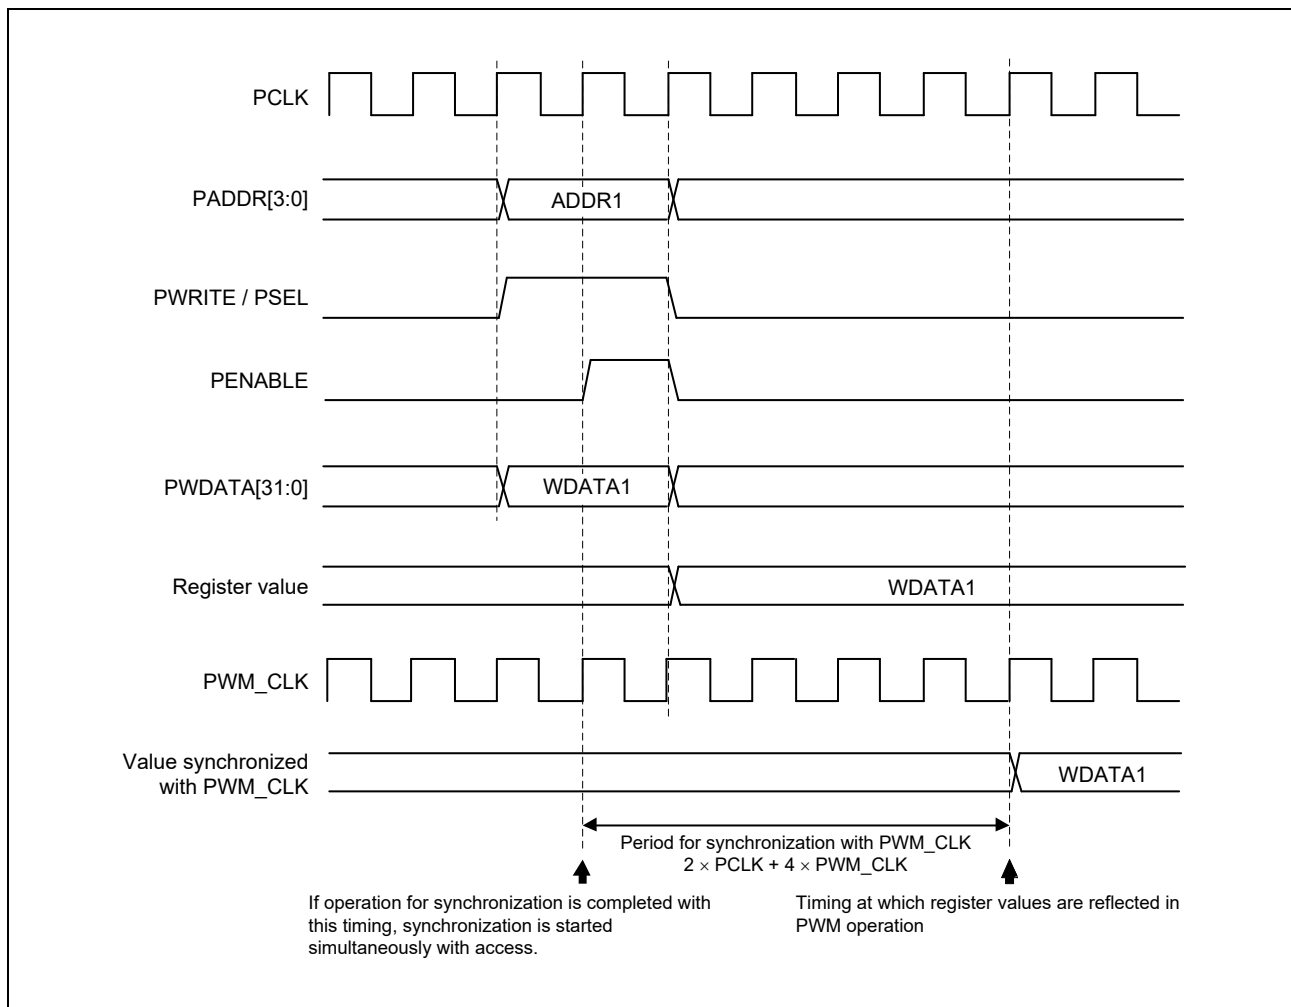
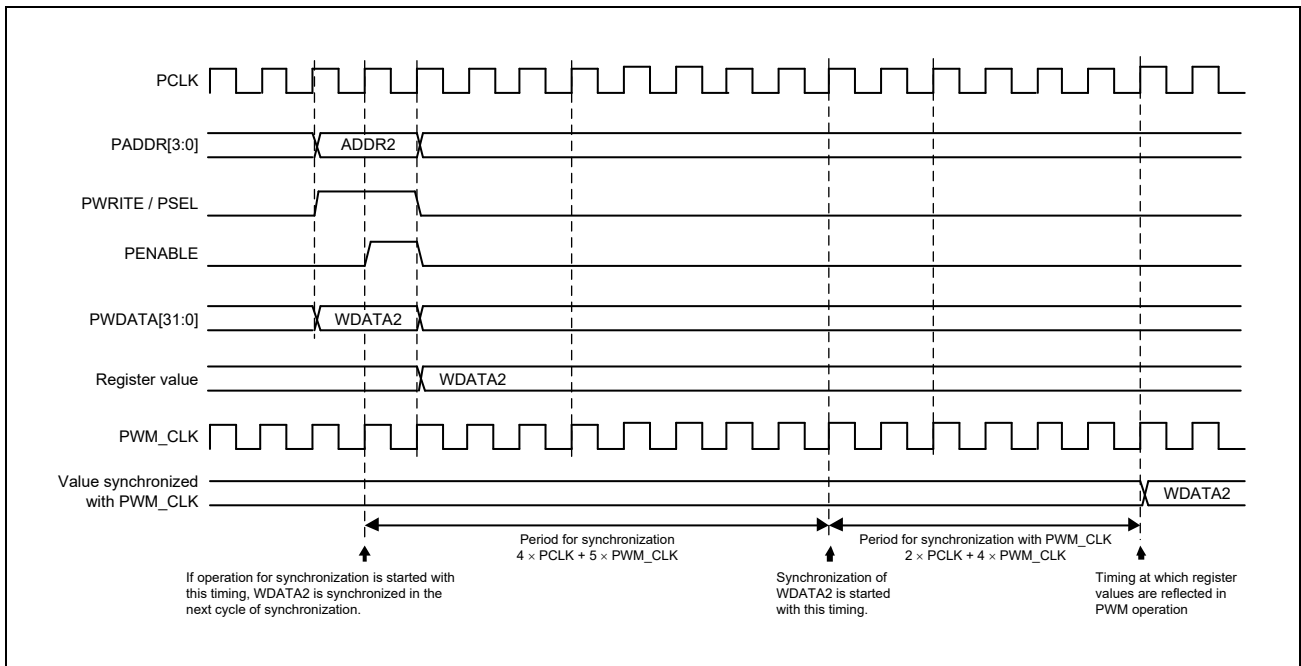

Figure 17.4-4 Timing 1 at which Register Values are Reflected in PWM Operation
Figure 17.4-5 Timing 2 at which Register Values are Reflected in PWM Operation
**Figure 17.4-4** shows how the written data are synchronized at the minimum period. **Figure 17.4-5** shows how the written data are synchronized at the maximum period.